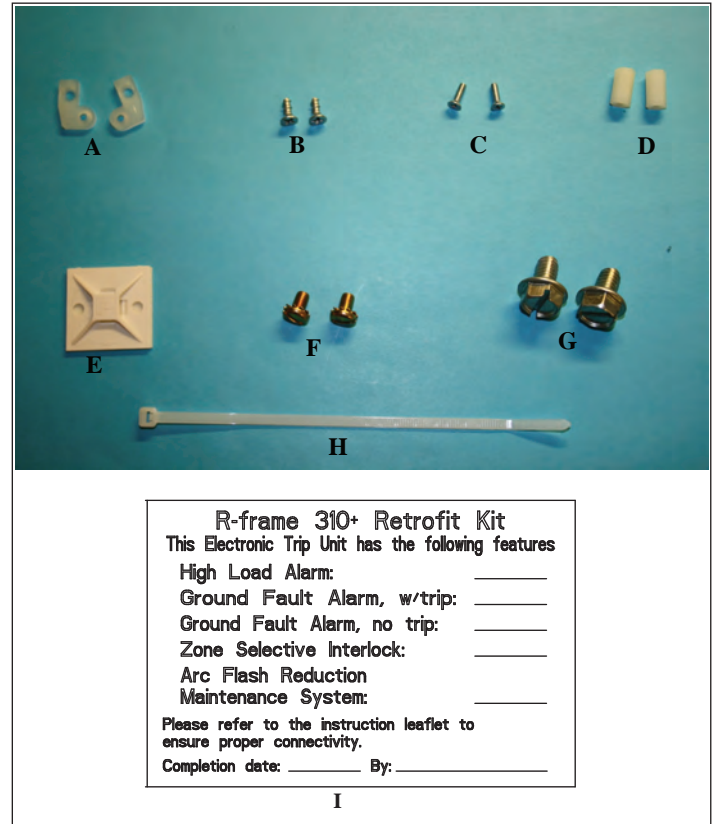
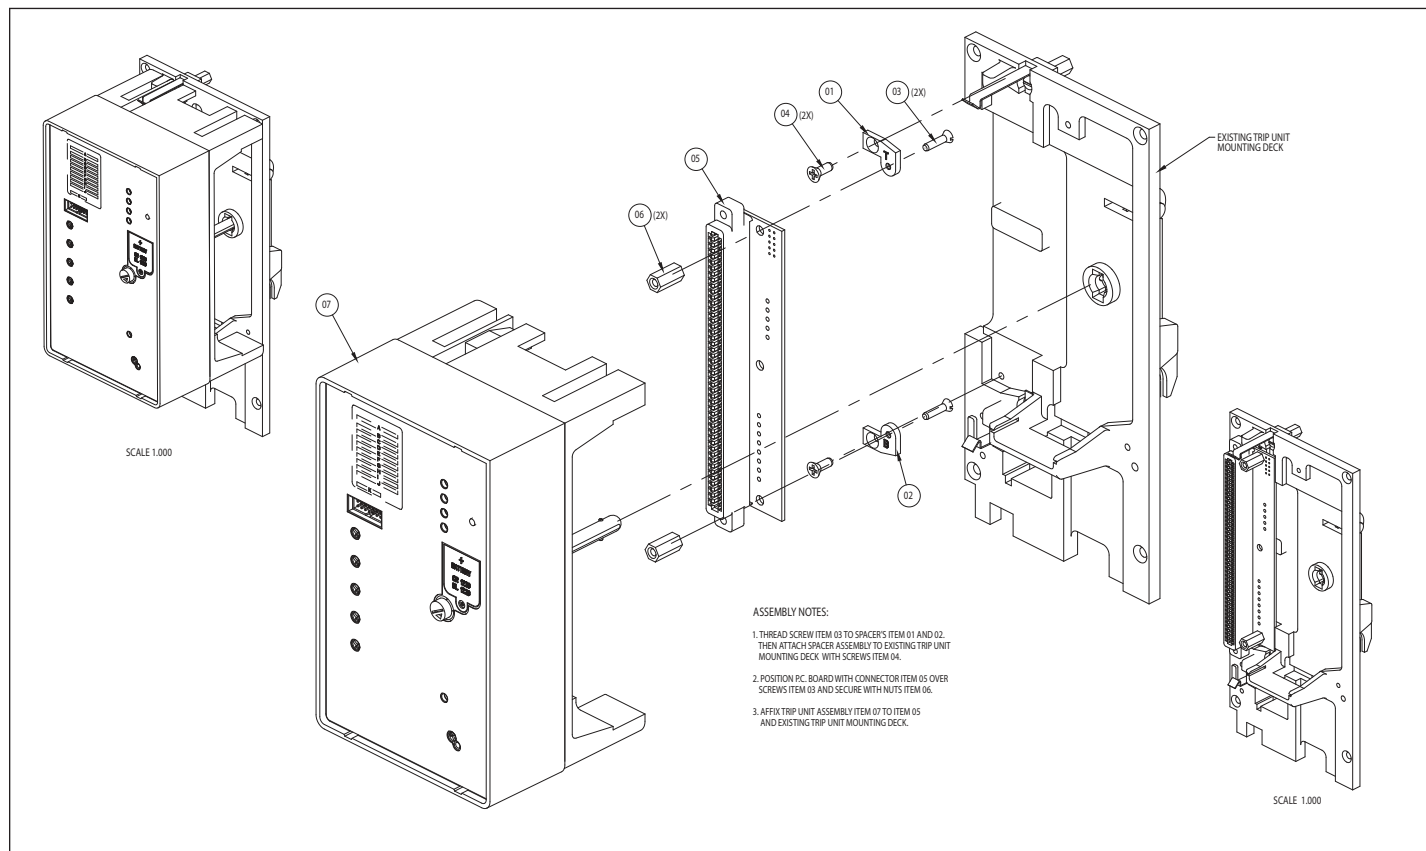

Figure 26. Supplied Hardware and Retrofit Label.
Figure 28. Drawing #6D32435.
Install the rail using two screws (Type F - see Fig. 26) then continue with the C/D terminal block installation by installing the C11/C12 and D11/D12 terminals onto the rail. The terminal blocks simply push down onto the rail and snap in place. At this point, the terminal identification strip can be installed onto the C/D block. It also is a press fit into the top of the terminals, centered between the terminal screws.
The hardware and label that are included in a kit is shown in Figure 26.
1. If the edge connector being replaced is the white ceramic terminal block type, the spacer kit (See Fig. 26, Items A, B, C, and D) must be used. Refer to drawing #6D32435 (see Figure 28) for details.